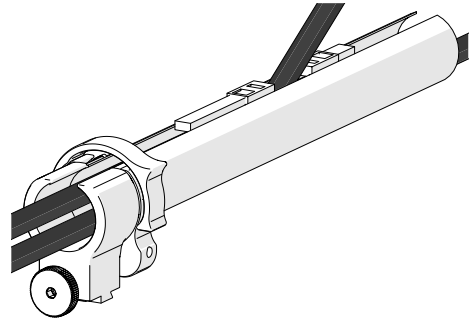

Fig. 68 - Flexibility
4. When necessary, the two zippers may be opened to allow any cables to exit the tube anywhere between the ends (Fig. 68).